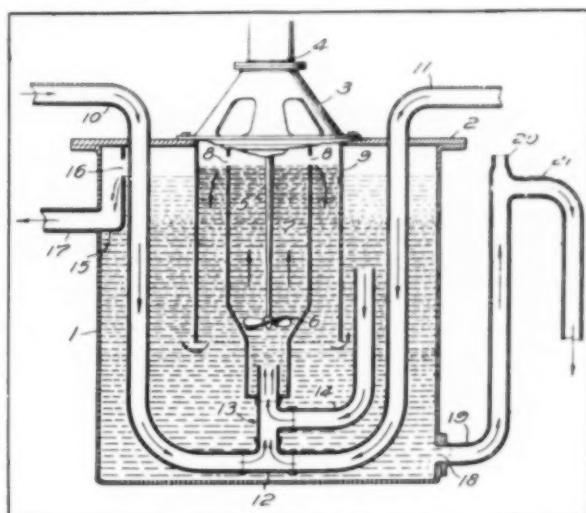
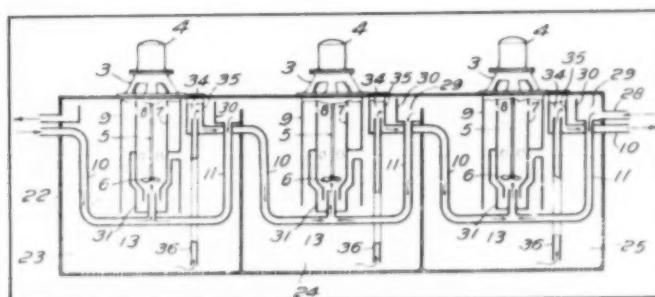

Fig. 19.
Fig. 20.
The horizontal mixer-settler in Figure 19 has individual stirrers and countercurrent settling flow controlled by a recycling tube which may be adjusted in height so as to recycle either emulsion or settled phases (8). The two phases are pumped into the mixing section by the action of the mixing propeller. The heavy liquid level in each chamber is set by an adjustable inverted U.
Figure 20 shows a multicompartiment apparatus based upon the design of Figure 19. A large chamber (22) is divided into three chambers of equal size, each equipped as just described. Each chamber is provided with a conduit (10) for introducing the fluid to be extracted. The fluid chamber (23) enters from the outside, and chambers (24) and (25), from the immediately preceding chamber. Each of the chambers is also provided with a conduit (11) for introducing solvent in a direction countercurrent to the flow of material to be extracted. The solvent is introduced through conduit (28) into a pocket (29) formed by baffle (30) and is carried from the pocket through a conduit into the T connection below the impeller. The solvent flows from one chamber to the next over the dividing wall, which does not extend the entire height of the chambers.